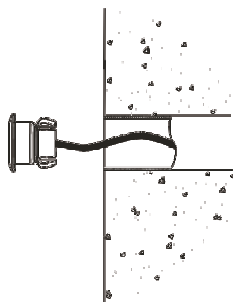
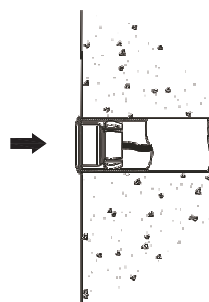

Figure 4
Figure 5
6. When installing underwater lights, Please refer to Figure 4 and Figure 5 of the lamp into the PVC pipe.